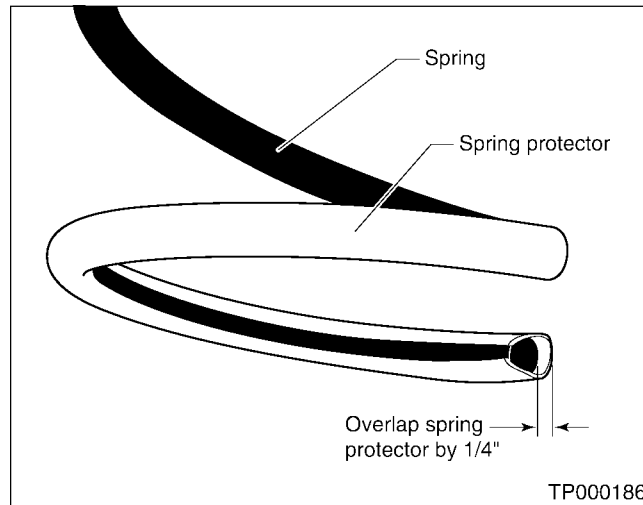

Figure 4
6. Install the gray spring protector back onto the spring so the protector overlaps the end of the spring by 1/4" (see Figure 4).